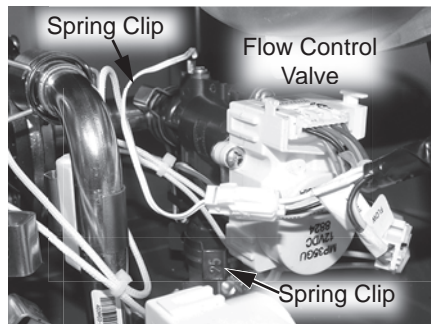

Figure 219 - Flow control valve location
- 17 Locate the flow control valve at the bottom right side of the water heater as shown in Figure 219.